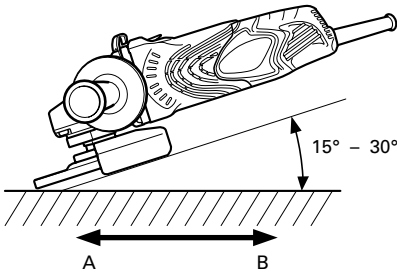

Fig. 2
Do not apply the entire surface of the depressed center wheel to the material to be ground. As shown in Fig. 2, the machine should be held at an angle of $15^\circ - 30^\circ$ so that the external edge of the depressed center wheel contacts the material at an optimum angle.
3. To prevent a new depressed center wheel from digging into the workpiece, initial grinding should be performed by drawing the grinder across the workpiece toward the operator (Fig. 2 direction B). Once the leading edge of the depressed center wheel is properly abraded, grinding may be conducted in either direction.